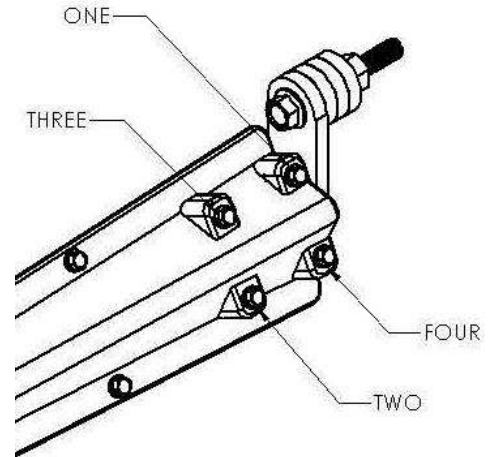

Figure 10
**TIP: Do not completely tighten one side of the backing block before moving to the other side. Alternate tightening of bolts as pictured in Figure 10. Make sure to only tighten halfway and then repeat the pattern in Figure 10 until backing block is flush against the bracket (PB501026).**